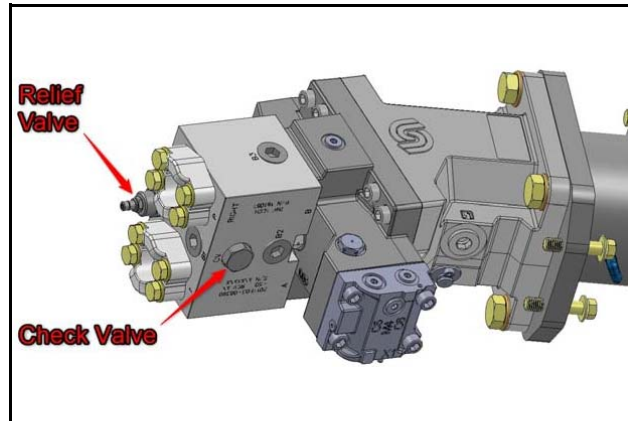

Figure 32
1. Tighten the relief valve to maximum [Figure 32].